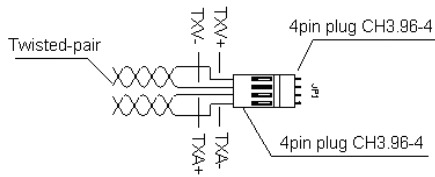

Fig. 6.32 Connection of Communication
1. The connection of the display Board for power supply and communication is shown in Fig. 6.32, the power supply and communication is made available via a 4-pin plug, of which Pin 1 for TXV+, Pin 2 for TXV-, both with DC24V power supply; Pin3 for TXA+ and Pin 4 for TXA- are communication lines. The lines for communication must be **Twisted Pairs**.